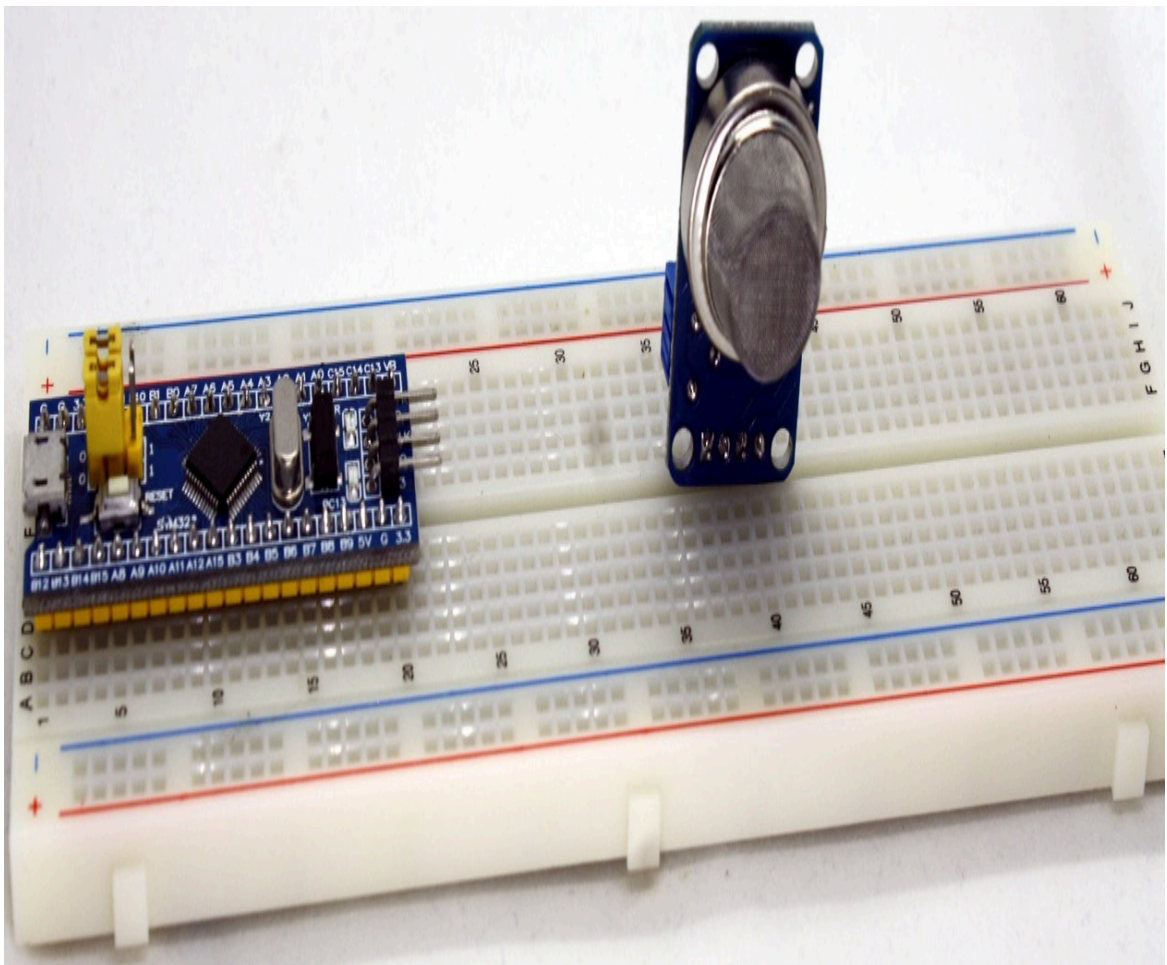

Figure 8.2 – Components on the breadboard
1. In connecting the components, place the sensor module and the STM32 Blue Pill on a solderless breadboard with enough space to add the wiring layer, as shown in *Figure 8.2*. The hardware connections for this project are exceptionally effortless: